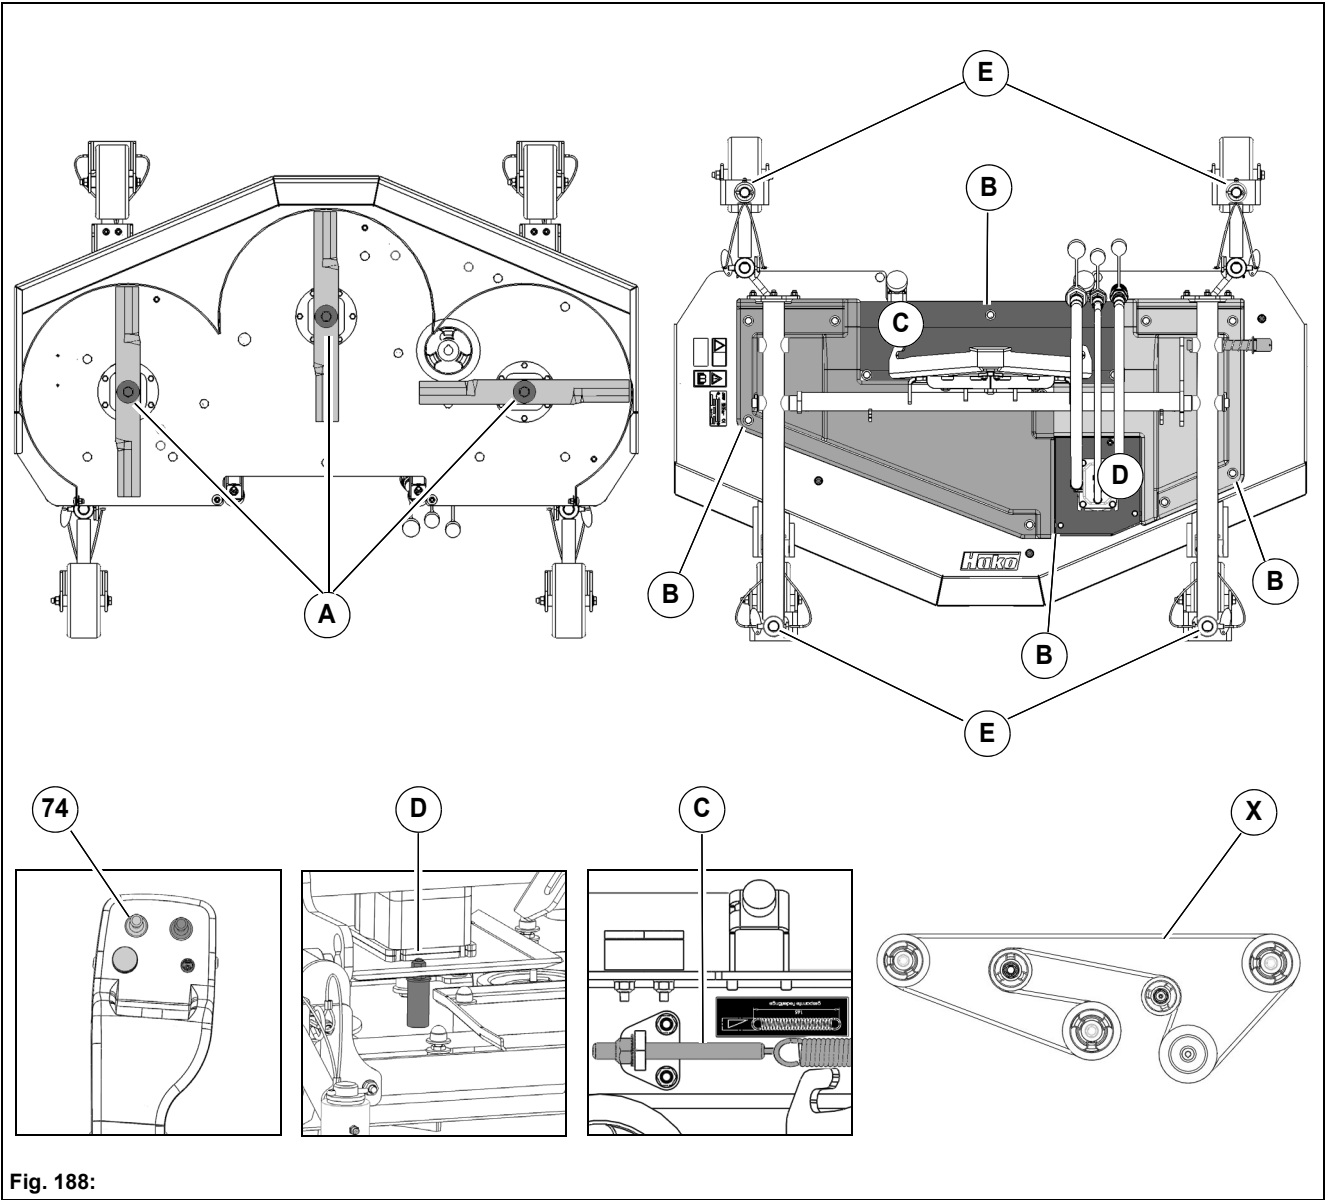

Fig. 188:
5. Pull the mounting bolt **Fig. 188-A** out and lower the mower with the joystick.
2. Loosen the screw **Fig. 188-A** and take off the disk and mowing blade.
2. Loosen the screws on the covers **Fig. 188-B** and remove the covers.
3. Relax the tension spring with the screw **Fig. 188-C** and unhook it.
4. Remove the screws of the gearbox holder **Fig. 188-D** and remove the defective V-belt.
5. Insert the new V-belt corresponding to **Fig. 188-X**.
- Bushes of the wheel holders **Fig. 188-E** (x4)